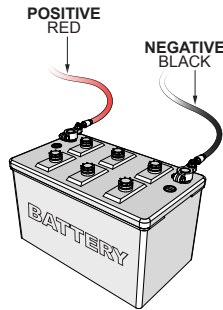

Figure 6. Battery Cable Connections
**ALWAYS** be sure the battery cables are properly connected to the battery terminals (Figure 6). The **RED** cable is connected to the positive terminal of the battery, and the **BLACK** cable is connected to the negative terminal.